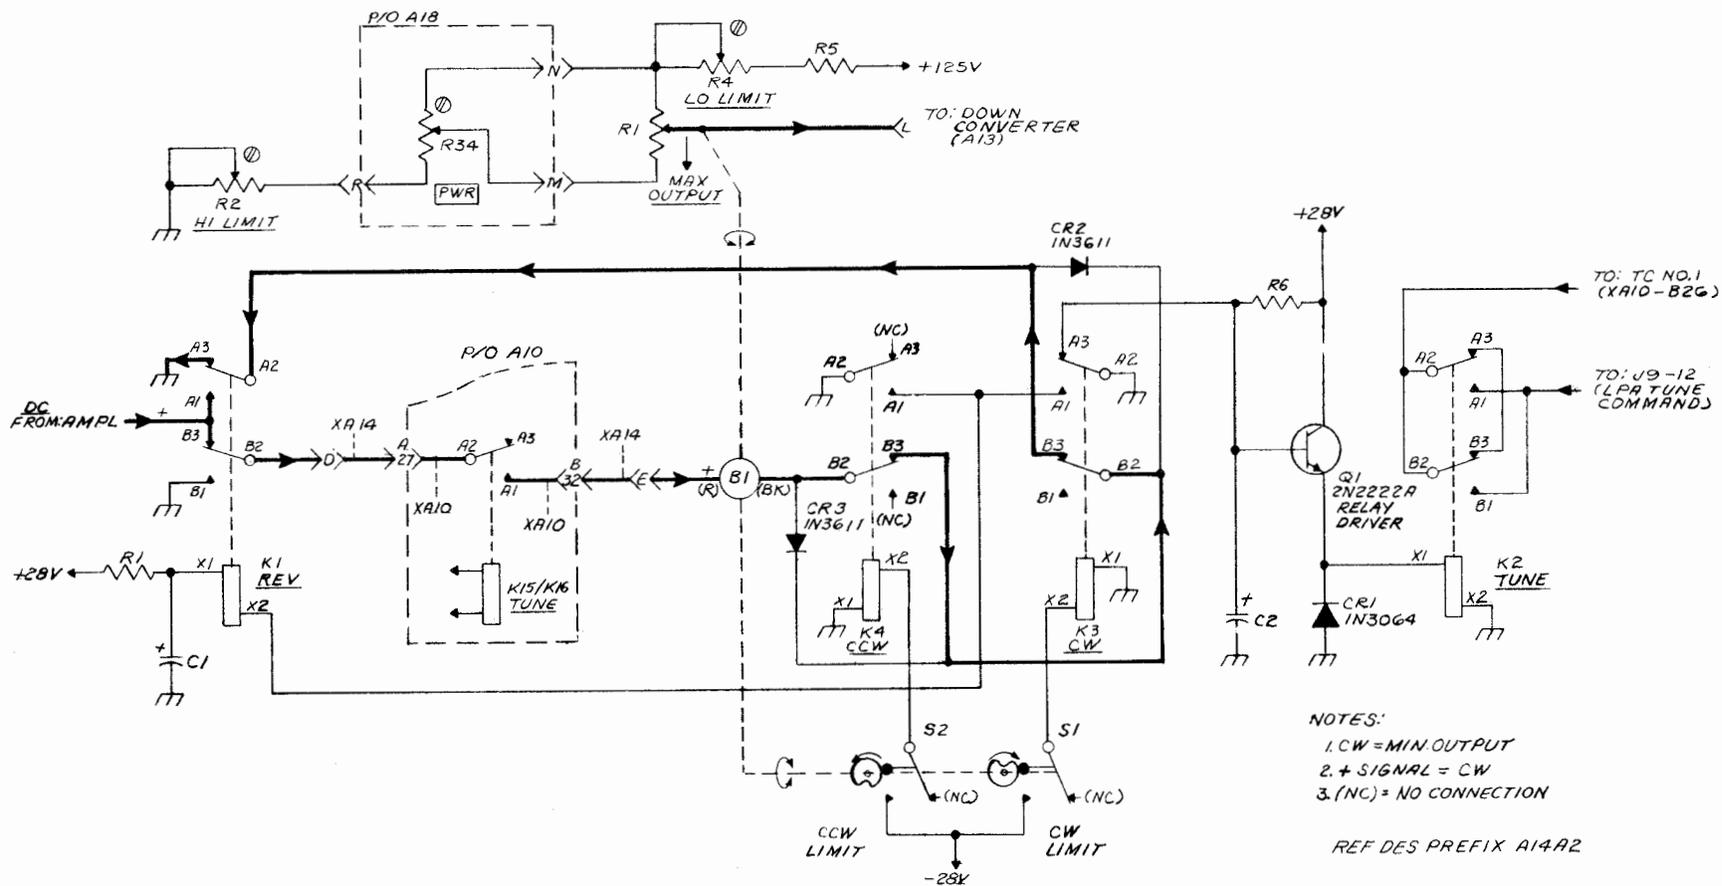

Figure 4-28. Motor Control A14A2, Simplified Schematic Diagram
(2) MOTOR CONTROL A14A2. (See figure 4-28.) - Motor B1 is controlled in direct response to the dc control signal from amplifier A14A1Q5, Q6, via relay A10K15 or A10K16, and motor travel limit switches S1 and S2. When a positive dc potential is supplied and motor brake relay K1 is not energized, B1 will drive in a clockwise direction, setting potentiometer R1 for minimum exciter rf output. A negative dc potential drives B1 in a counterclockwise direction. Limit switch S1 (cw) or S2 (ccw), when tripped by the motor shaft cams, energizes relays K3 or K4, respectively. This opens the motor circuit in the direction of current flow, but a path is provided for reverse current flow through associated diodes CR2 or CR3. Relay K1 momentarily reverses the motor connections for a reversal of rotation when C1 discharges in response to the closing of either relay K4 or K3. This reversal provides braking action. Transistor Q1 functions when a minimum rf output condition occurs (fully cw motor drive), energizing relay K2. This completes the TUNE (ACTIVATE) command from transmitter control no. 1 module A10 to the LPA. Capacitor C2 prevents relay K2 from chattering each time reversal relay K1 closes.